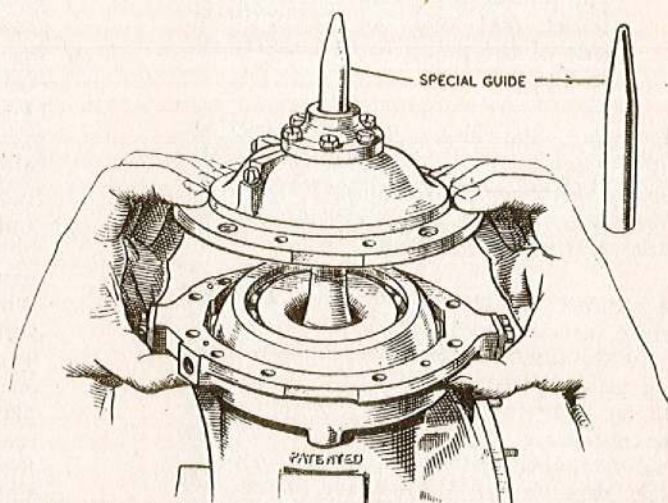

Fig. 25. Assembling cam-plate housing to pump housing, using special guide
2. Position the guide or protective cap over the splined quill shaft (fig. 25). As frequent use may result in this guide being damaged at its tapered edge, its face must be smoothed off regularly to ensure that the seals slide easily over the joint between the guide and the quill-shaft.